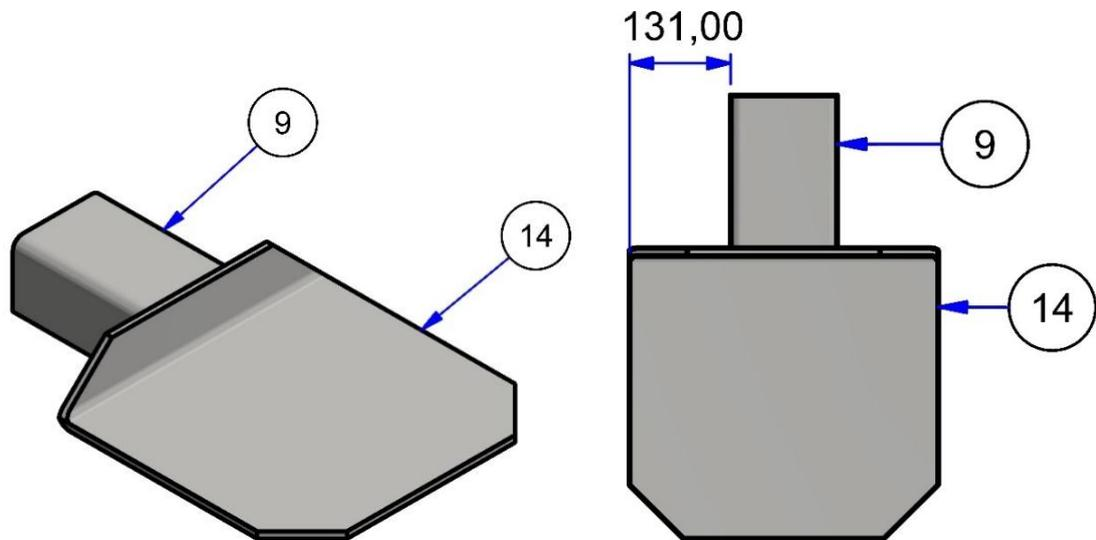

**Figure 3 (Check Dimension "A")**
4. Ensure dimension A, Figure 3 is achieved to give the exact wheel rest width for the machine to be fitted